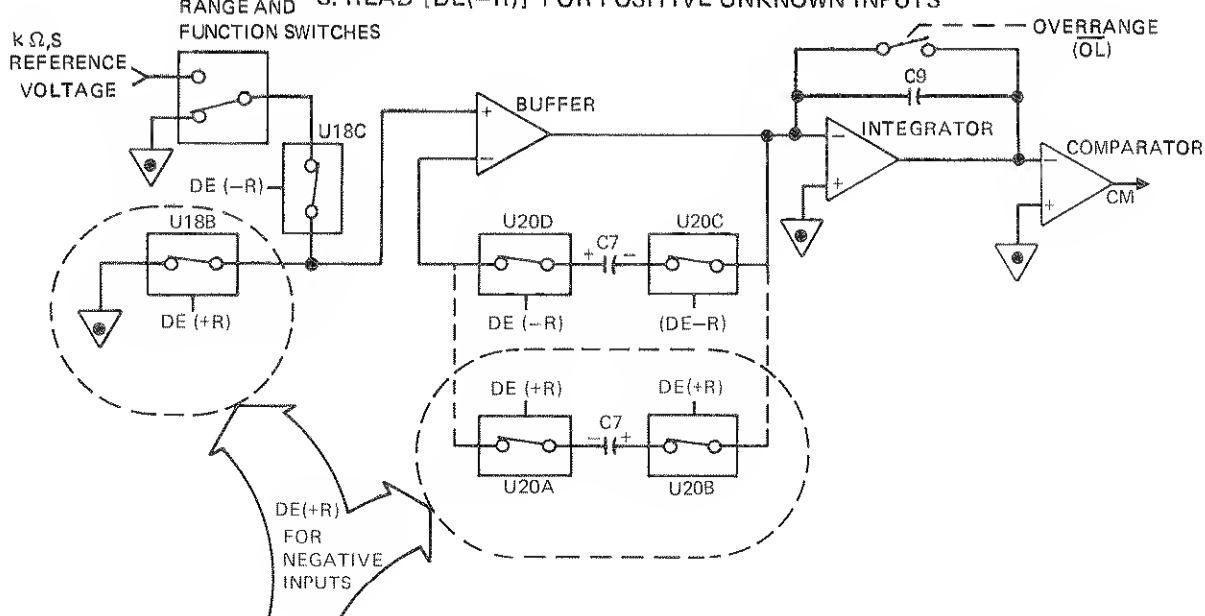
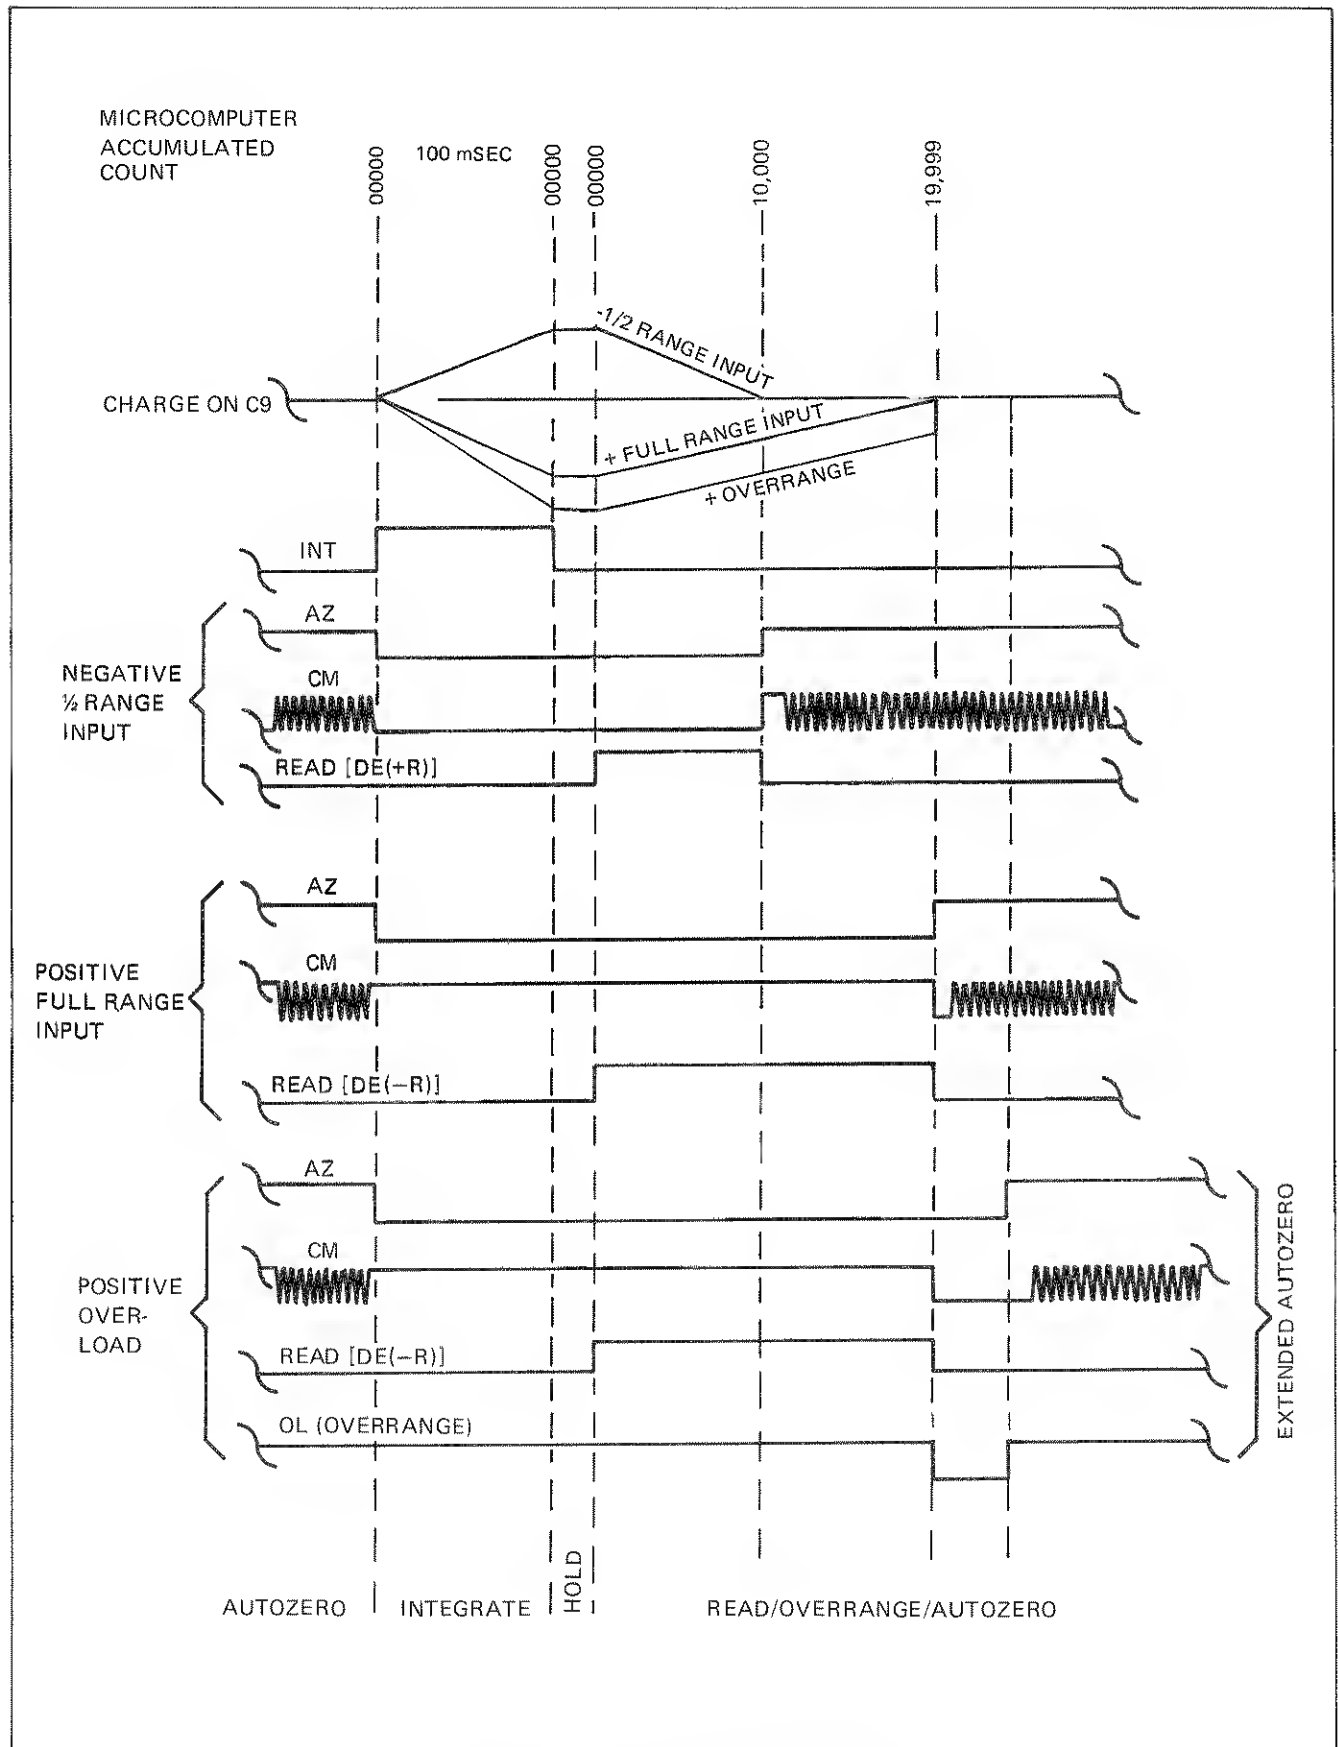

Figure 3-2. A/D Converter
Figure 3-3. A/D Converter Waveforms
3-9. The microcomputer controls the a/d converter via CMOS switches. Figure 3-2 shows the simplified circuits formed during the major periods of a/d conversion cycles. Figure 3-3 is a timing diagram that shows the a/d converter cycle resulting from three different input signals. Assume in reading the following paragraphs that the DC V function and the 2V range are selected, and the DMM is nearing the end of the Autozero period in its conversion cycle.
3-10. As Part A in Figure 3-2 shows, the CMOS switches U18B and U19A are closed, providing voltage levels that allow C8 and C33 to store the offset voltages of the buffer, integrator, and comparator. CMOS switches U18D and U19B connect the flying capacitor, C7, to a reference voltage. Since the V function is selected, C7 is charged by the a/d converter reference voltage source. At the end of the Autozero period, C7 is fully charged, C8 and C33 are charged up to the offset voltages, and the comparator output (CM) is near a threshold level.
3-11. Assume that an input of -1.0000V dc is present at the DMM input (first set of waveforms in Figure 3-3). The microcomputer starts the Integrate command (INT) at the same time that it ends the AZ command. The a/d converter circuit is switched to the configuration shown in Figure 3-2, Part B. CMOS switch U18A connects the output of the signal conditioners to the input terminal of the buffer. For the 2V range, the microcomputer selects the X1 gain in the buffer, and the input from the signal conditioner is applied to the buffer and integrator in series. The integrator begins to charge C9. The instant that the charge on C9 shifts from its initial level, the comparator toggles, and its Compare output (CM) goes to a steady level. Since the unknown input to the DMM is
3-13. Since CM is negative, the microcomputer initiates the Read period with the DE (+R) (de-integrate plus reference) command (Part C of Figure 3-2), CMOS switch U18B connects the buffer input to COMMON, and CMOS switches U20A and U20B connect C7 in the buffer feedback loop so that the integrator input is a known level (1V) of the opposite polarity from the input signal. The integrate capacitor, C9, begins to discharge, and the microcomputer starts to count from 00000. The count accumulates until C9 discharges to its initial level. The instant C9 reaches its initial level, the comparator toggles CM positive, stopping the count in the microcomputer. The count in this case will be 10,000. This count (with the appropriate decimal point) is numerically the same as the -1.0000V dc input to the DMM.
3-15. The bottom set of waveforms in Figure 3-3 shows the timing that results from a positive overrange input to the DMM. If the count in the microcomputer reaches 20,000 before CM toggles, the microcomputer detects this as an overrange condition and issues the overload (OL) command for 5 millisecond. The OL signal shorts C9, dumping the remaining charge. The following Autozero period is doubled to 200 millisecond. The polarity of the overrange input signal is retained and displayed.